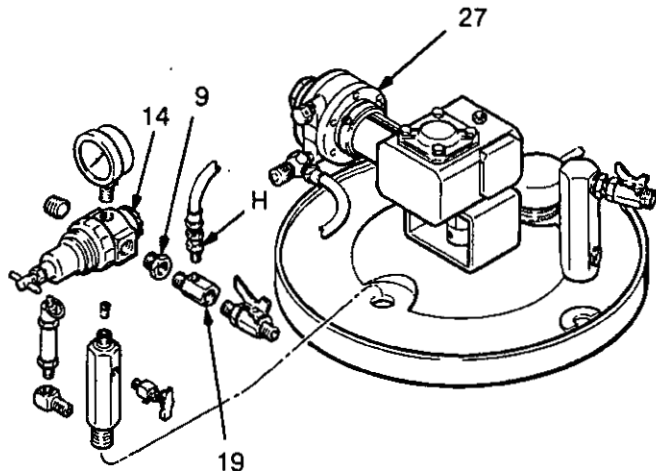

Fig 2
Disconnect the air hose (H) from the agitator air motor (27) and the air manifold (19). See Fig 2. Remove the bushing (9), the air manifold and the ball valve from the original air regulator (14).